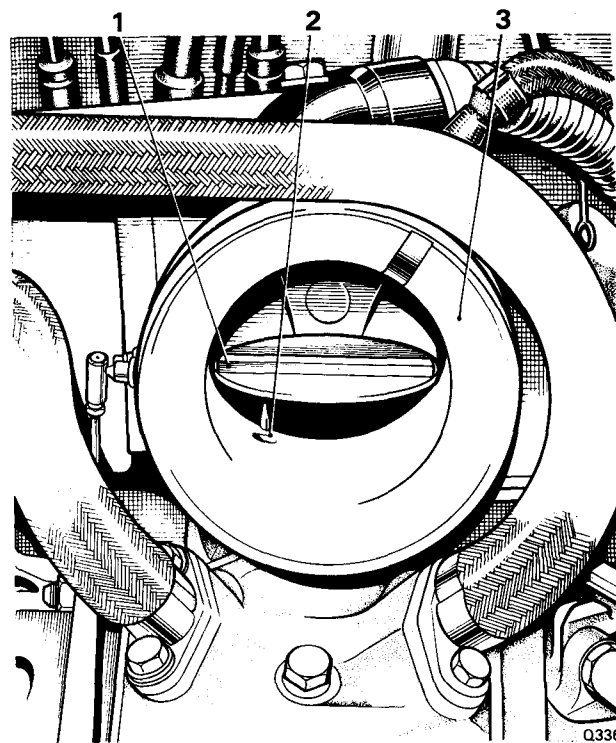

FIG.14 HOT IDLE MIXTURE COMPENSATOR FEED
1. When blanking off the hot idle compensator feed drilling refer to Figure 14 in this Supplement.